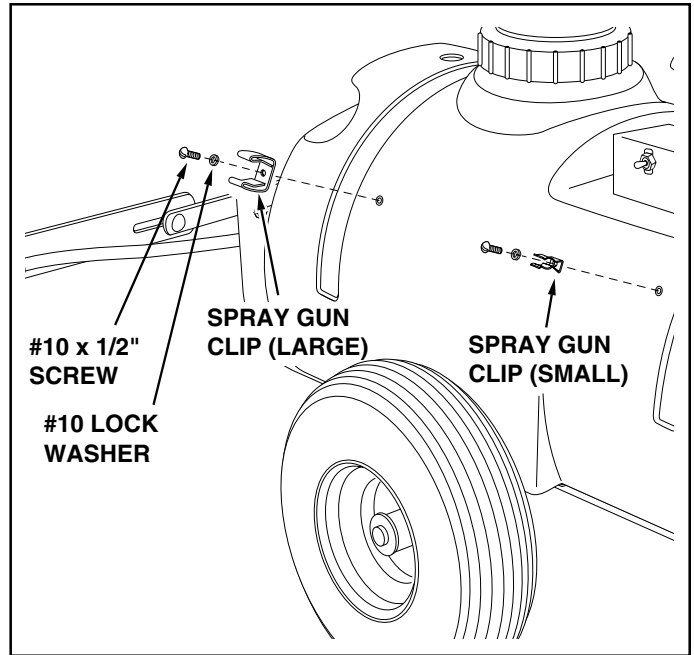

FIGURE 7
12. Assemble the large and small spray gun clips to the side of the tank using two #10 x 1/2" screws and #10 lock washers. See figure 7.